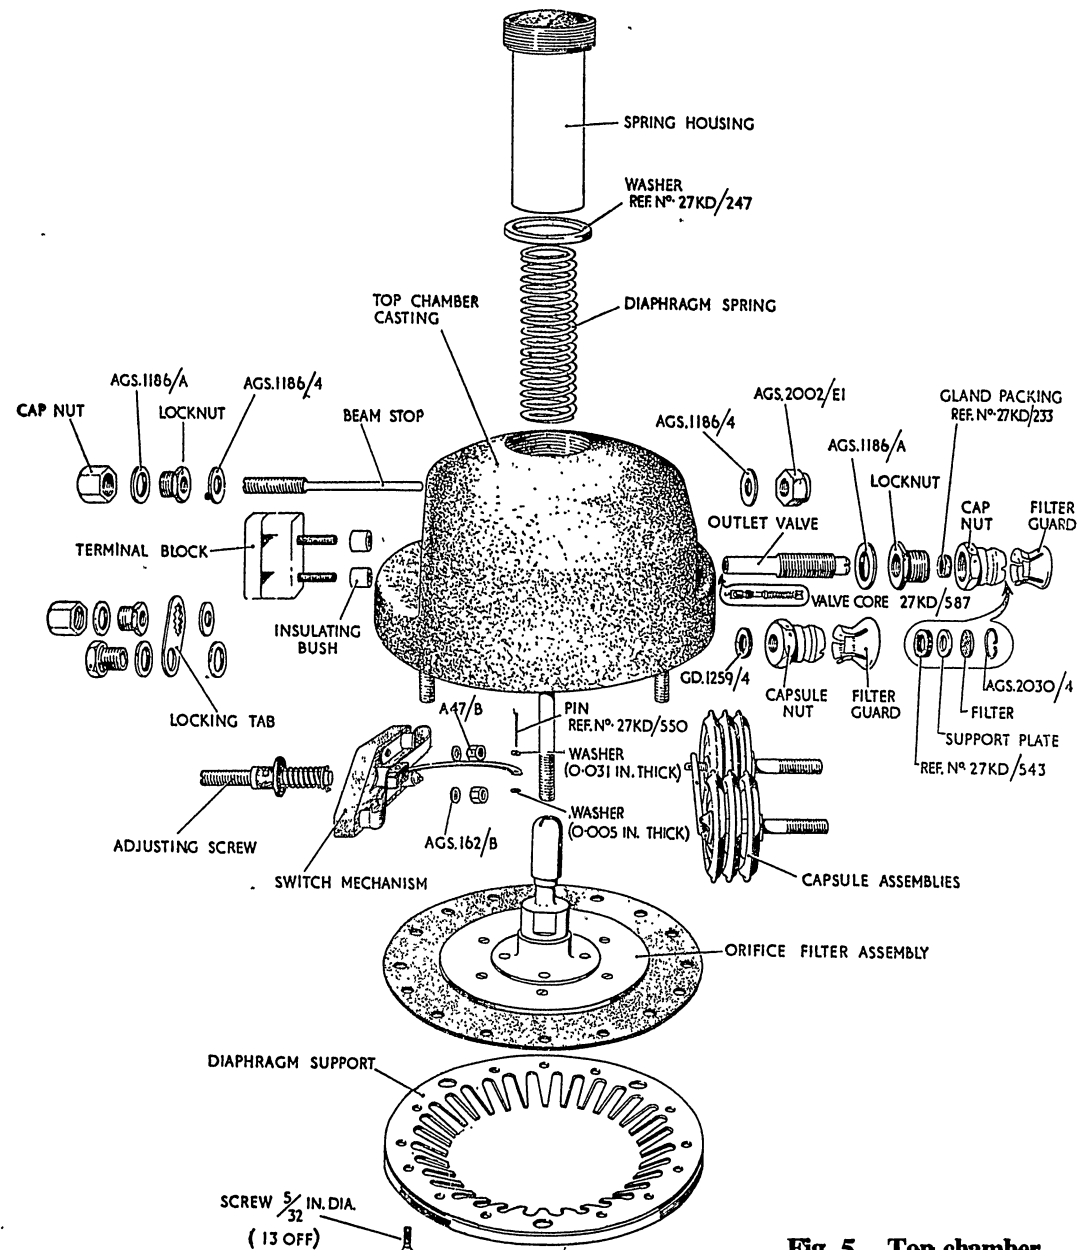
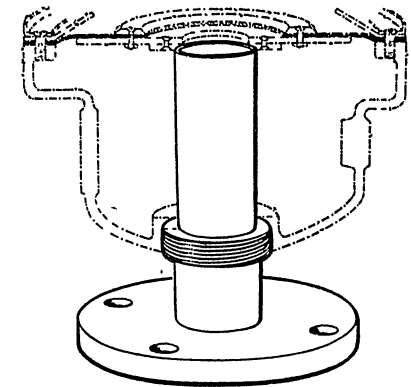

Fig. 5. Top chamber
Fig. 12. Diaphragm setting fixture ST.5003
Top chamber (fig. 5)
(2) Secure a new diaphragm (Ref. No. 27KD/235) between the upper and lower support rings with six screws (Ref. No. 27KD/1412) and nuts (Ref. No. 27KD/238), first coating the threads of the screws with sealing compound (No. 1751). Lock the screws by trimming to length and riveting over.
(3) Insert the internal parts into the orifice cap in the following order: the double spring washer (A.G.S.163/B), a new fibre washer (Ref. No. 27KD/240), the filter, a second fibre washer, the orifice plate and a third fibre washer. Screw the orifice cap on to the orifice body. The filter body and its retaining bolt should be omitted at this stage.
(4) Fit the top chamber to the diaphragm setting fixture ST.5003 (*fig. 12*), ensuring that it is screwed down to the end of the thread. Apply a light coating of sealing compound (No. 1751) to the rim of the casting and the mating face of the diaphragm support (*fig. 5*). Set the orifice filter assembly in position, so that the flange on the orifice body is supported by the fixture. Check that the diaphragm is free from wrinkles, and set the diaphragm support in position. Secure the parts with the thirteen $\frac{3}{8}$ in. dia. screws, first coating the threads with sealing compound (No. 1751). Tighten the screws evenly all round to prevent distortion of the diaphragm.